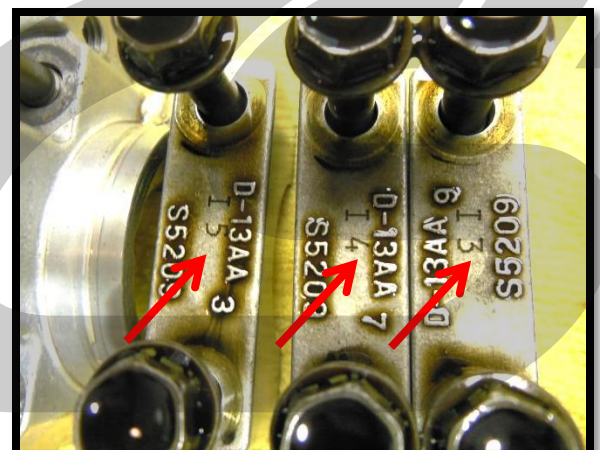

Figure 5d
- E3= Cyl. 3 exhaust(Figure 5d)